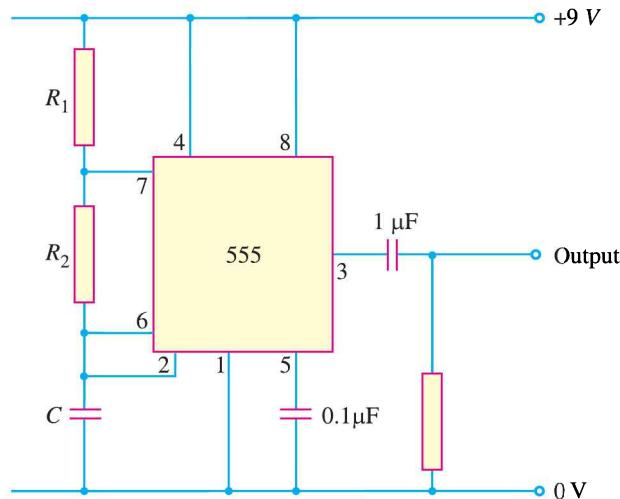

Fig. 23.18
(iv) **The 555 Timer as astable multivibrator.** Fig. 23.18 shows the 555 timer as an astable multivibrator. Note that the circuit contains two resistors ( $R_1$  and  $R_2$ ) and one capacitor ( $C$ ) and does not have an input from any other circuit. The lack of a triggering signal from an external source is the circuit recognition feature of the astable multivibrator.
**Example 23.3.** Determine the frequency of the circuit shown in Fig. 23.18. Given that  $R_1 = 3 \text{ k}\Omega$ ;  $R_2 = 2.7 \text{ k}\Omega$  and  $C = 0.033 \mu\text{F}$ .